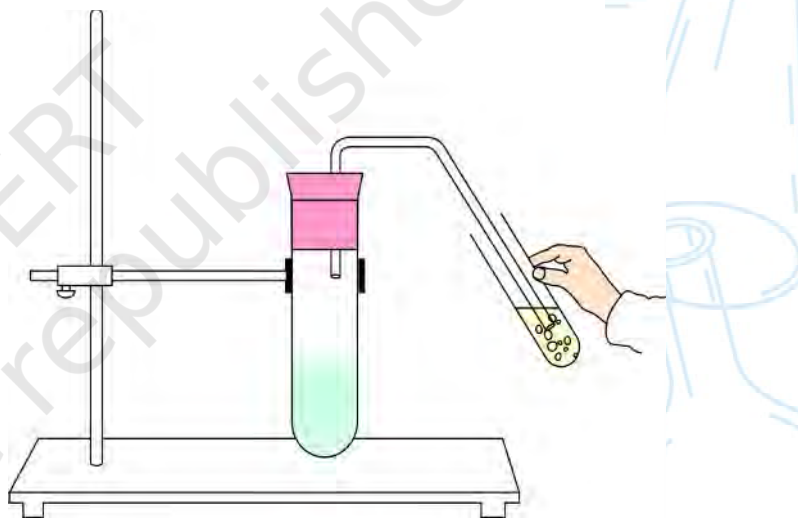

Fig. 4.1 : Passing of liberated gas through the freshly prepared lime water
- Fix a delivery tube through a cork to the mouth of the test tube and pass the liberated gas through the freshly prepared lime water (Fig. 4.1). Observe what happens? Do you see bubbles of it in lime water? Does it turn milky? If yes, it shows the presence of carbon dioxide.